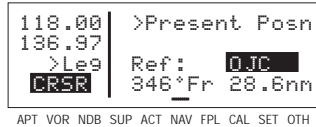

Figure 3-116
1. With the NAV 2 page on the radial and distance from a reference waypoint format, turn on the cursor (CRSR) and move it to the Ref: field (figure 3-116).